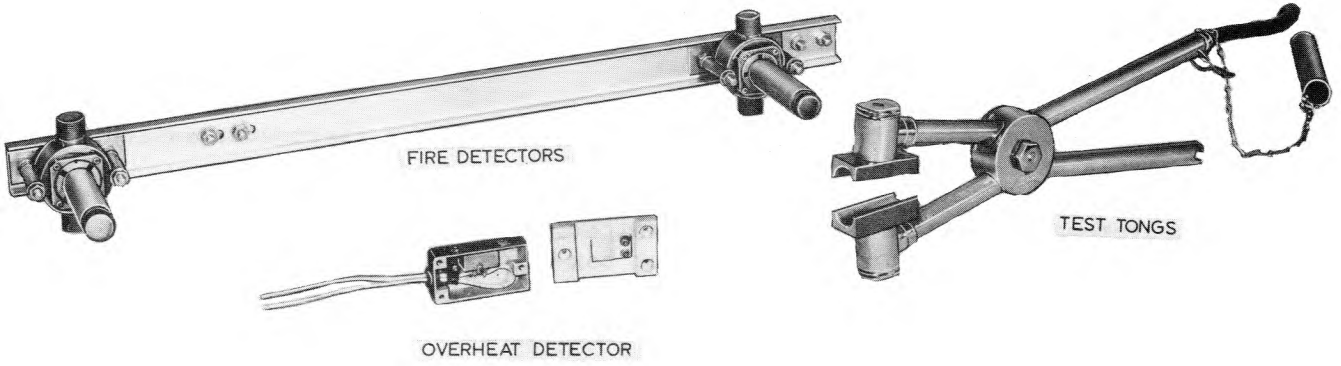

Fig. 1 Overheat detector, fire detector and test tongs
5.1 Overheat detectors intended to monitor air temperature (fig. 1); the thermostat is mounted in a black copper box with a fibreglass lid that also serves as a thermal insulating mounting for the detector. These detectors are mounted on the transmitter gate structures and are set to operate at 80°C.
6 A total of 16 fire detectors are fitted in the top of the transmitter/receiver assembly. The detectors are mounted in pairs on brackets (fig. 1); the location of each pair is shown in fig. 9.
9 The test tongs shown in fig. 1 are provided to check the operation of the fire detectors. The jaws of the tongs are heated by a built-in element, rated 18V 50 Hz at 7A. The tongs require approximately five minutes to reach operating temperature before being clamped to the fire detector under test.